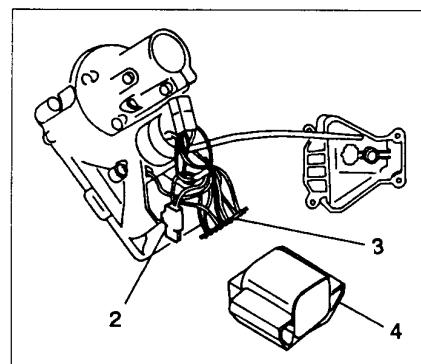

Fig. 3-11
5. Disconnect battery couplers (2), pull out circuit plate (3) and then, separate the battery (4) with the waterproof cover from the engine main unit. (Fig. 3-11)